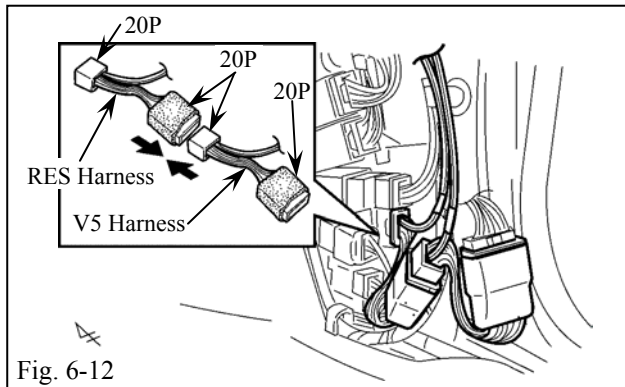
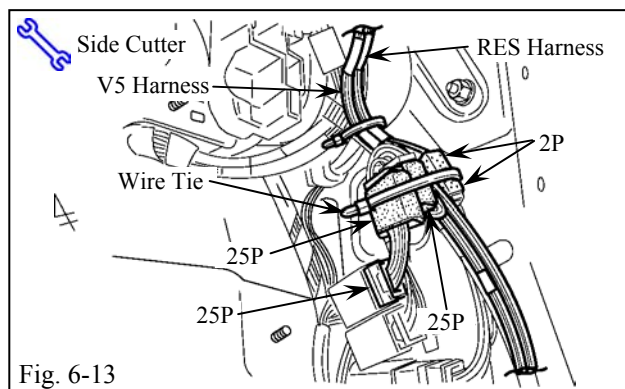

Fig. 6-12
Fig. 6-13
- (r) Connect the RES Harness's blue 20P Male Connector to the V5 Harness' blue 20P Female Connector. (Fig. 6-12)
- (s) Plug in the RES Harness' blue 20P Connector into the Passenger Side Cowl Area. Then connect the V5 Harness's blue 20P Connector to the Vehicle Harness's blue 20P Connector. (Fig. 6-12)
- (1) Verify the Connectors are plugged in securely.
- (t) Secure the white 25P Connectors, RES Harness, V5 Harness and white 2P Connectors to the Vehicle Harness with 1 Wire Tie. (Fig. 6-13)